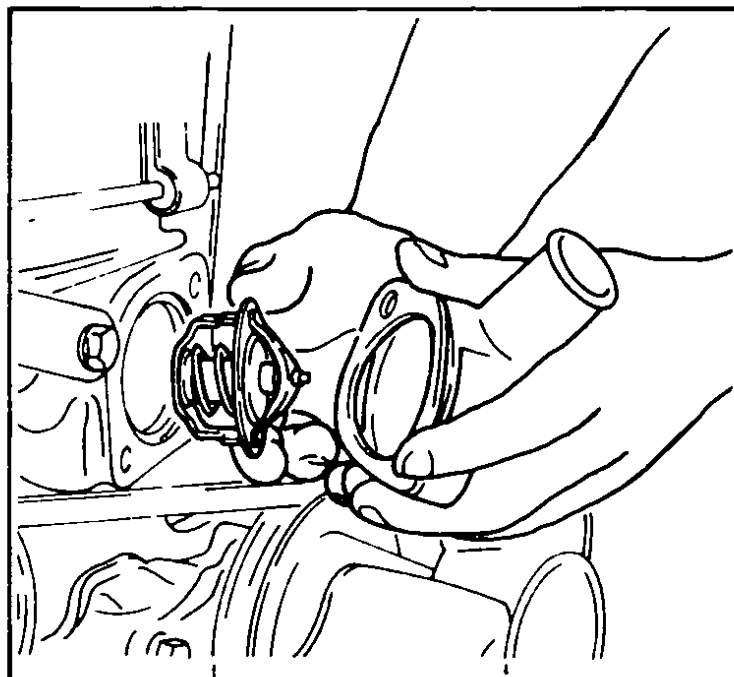

Fig 10 Removing thermostat
- 3 Remove the two securing nuts, water outlet, gasket and thermostat from the thermostat housing, Fig 10